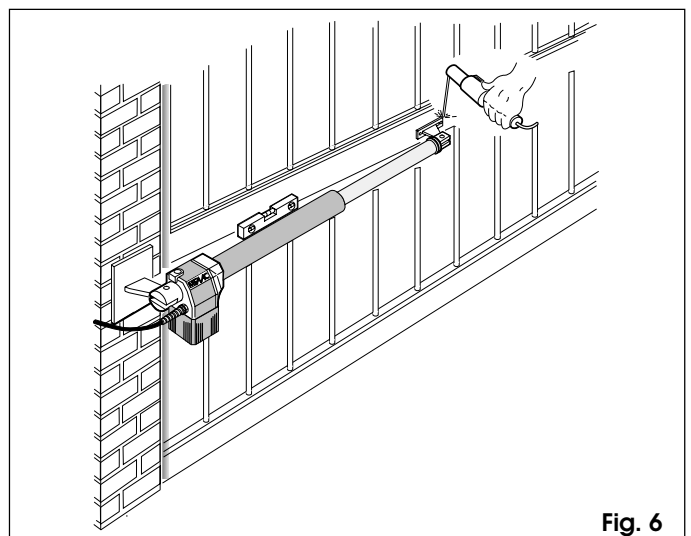

Fig. 6
- 8) Close the gate leaf and, keeping the operator perfectly horizontal, locate the leaf attachment position of the front bracket (fig. 6).